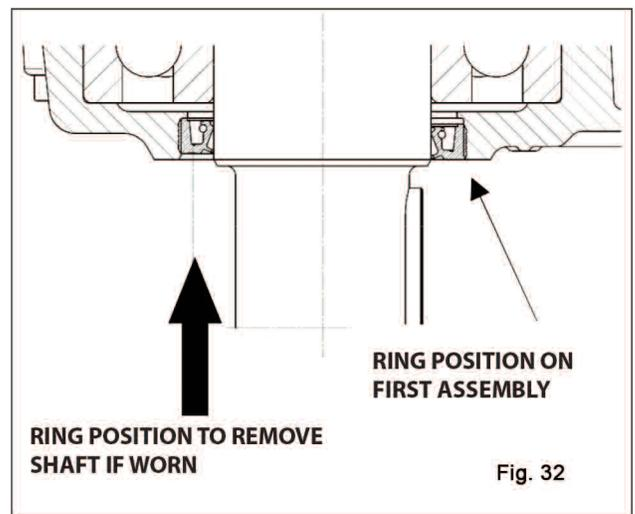

Fig. 32
**If the shaft should present a diameter wear corresponding to the lip seal, to prevent grinding, position the ring in the second stroke as indicated in fig. 32.**